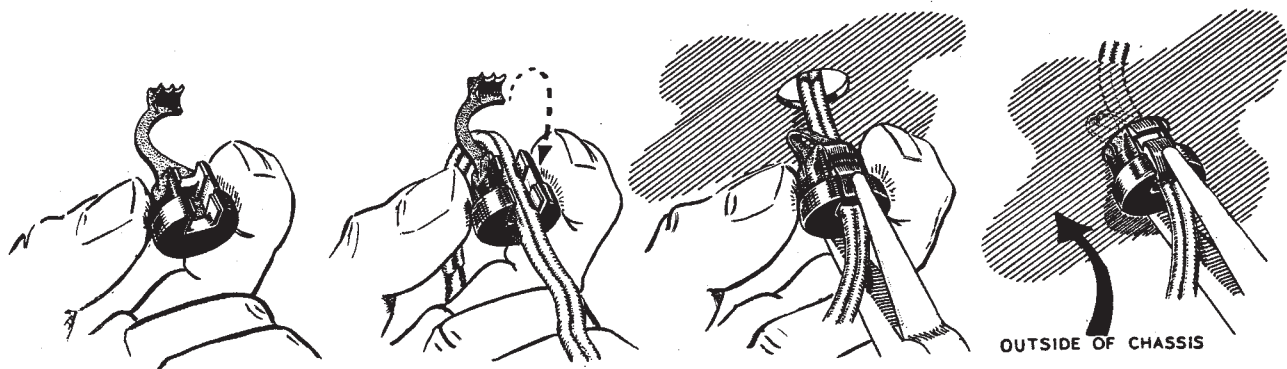

Figure 8
- ( ) Install the line cord as shown in Figure 8. First tin leads and then connect one wire to lug 2 (S-3) and the other wire to lug 4 (S-3) of terminal strip N.